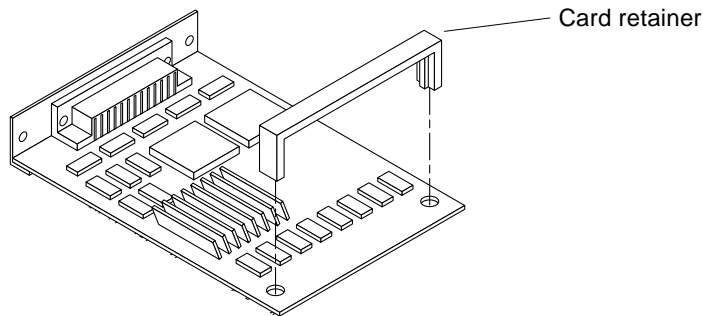

FIGURE 4-14 Card Retainer
3. Remove the black plastic card retainer shipped with the card (FIGURE 4-14).
See FIGURE 4-14 on page 4-17. Spread the ends of the retainer apart to remove it from the card (the retainer is not needed for this installation).